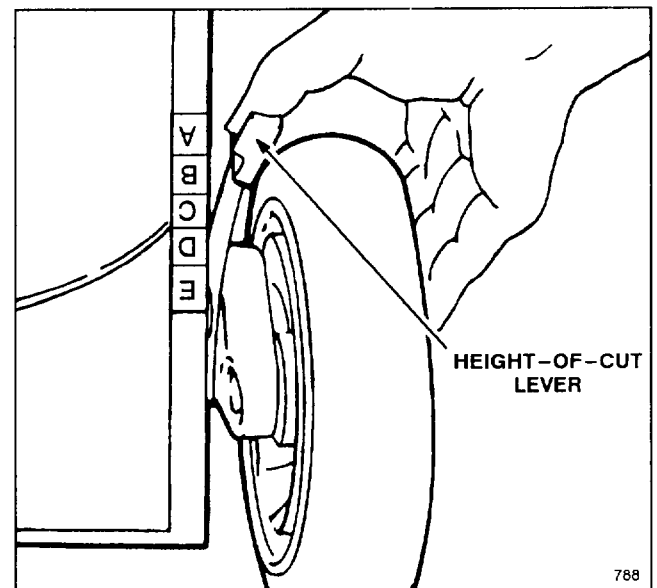

Figure 10
3. Squeeze the mower's height-of-cut lever toward the wheel and move it to the corresponding color/letter on the mower housing (Fig. 10). For easier adjustment, lift housing up so wheel is off ground. **Do not put fingers under housing when lifting.** Ensure pin on height-of-cut lever engages slot in housing. Adjust all wheels to the same color/letter setting.
2. Put all four wheels in "E" height-of-cut position (Fig. 10).